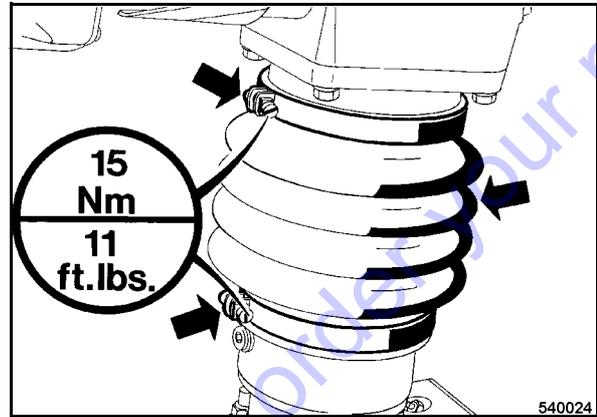

Fig. 33
- Check the hose clamps for tight fit (Fig. 33).